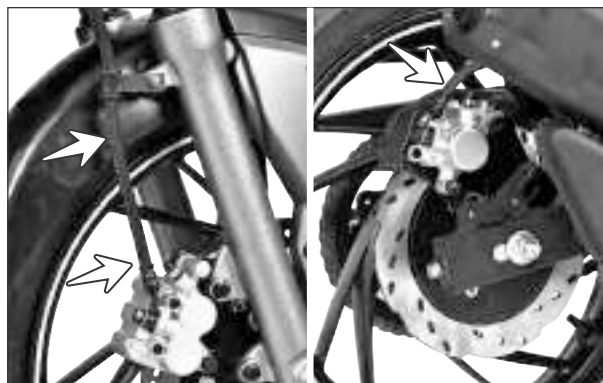

Fig. 2.115
- Inspect the front and rear brake hoses for any visual damage / crack and oil leak. If found any, replace the respective hose. However the brake hoses must be replaced every three years without fail for the safety. (Fig. 2.115)